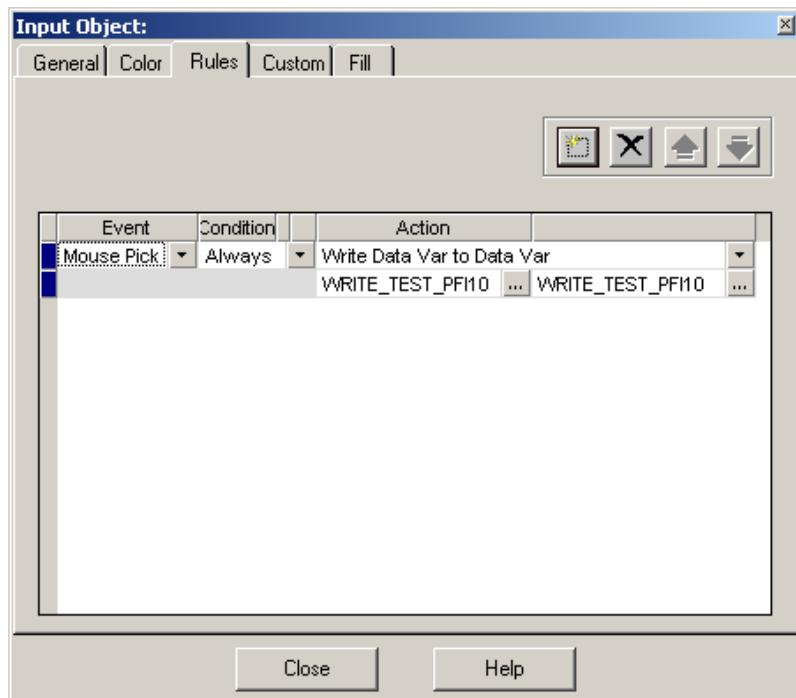

Figure 18: Rules tab of the Input Object dialog
2. The data variable is written to the data source (MicroSCADA OPC server). This happens when the user clicks on the object. The data variable for writing can be defined in the **Rules** tab of the Input Objects Properties dialog, see Figure 18.
7. Click the **Create a New Rule** button on the Rules tab Figure 18.